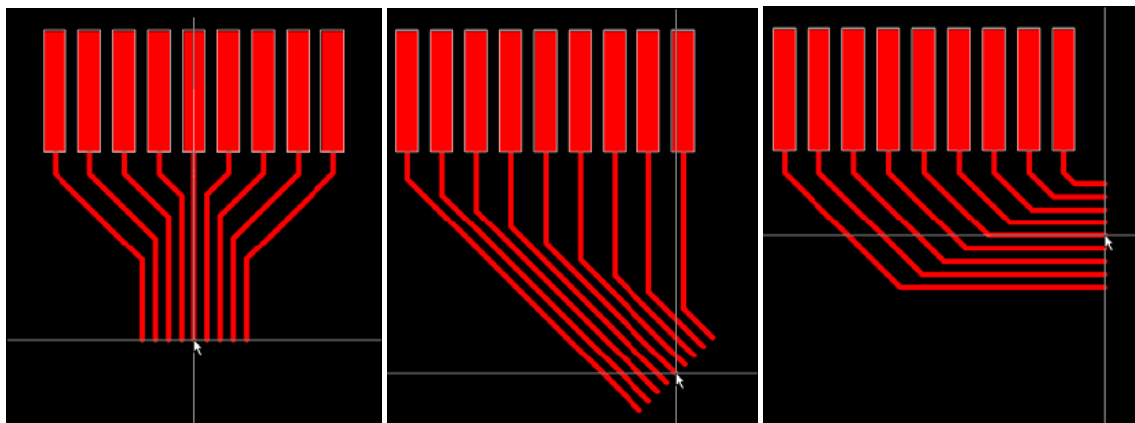

Figure 10. Use Multiple Traces command to start from selected pads in an unrouted component. Move the cursor to explore gathering options.
- The multiple traces are then automatically gathered together, as shown in Figure 10. Simply move the cursor around as you place the multiple traces to explore various gather options.